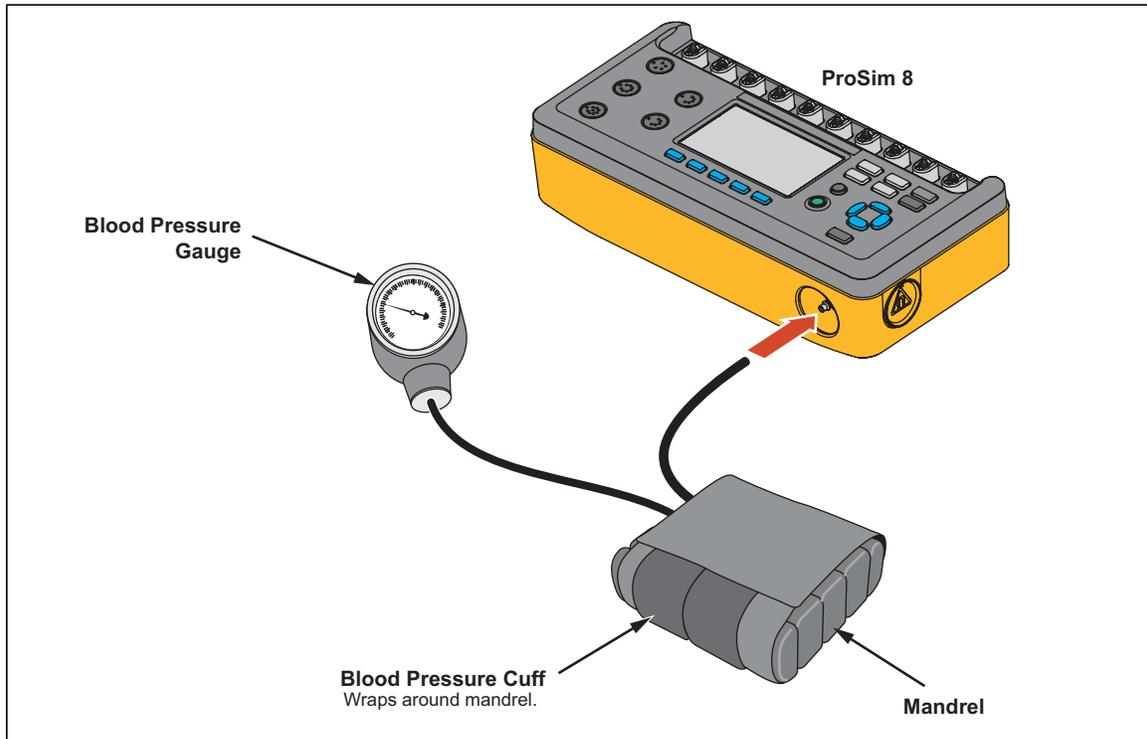

Figure 42. Pressure Source Connection
1. Connect the pressure port to pressure system as shown in Figure 42.